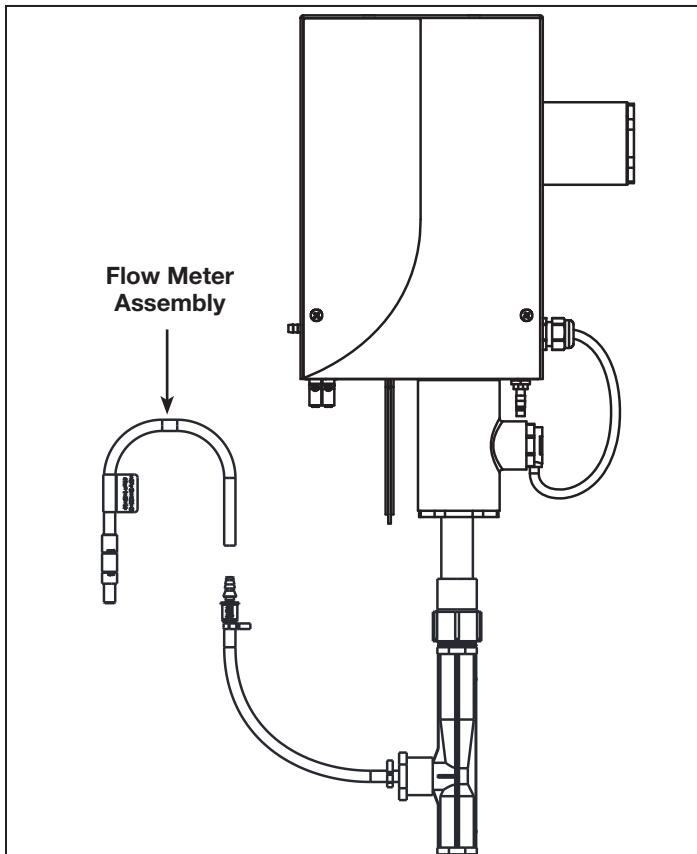

Figure 4. Flow Test Diagram
1. Temporarily disconnect tubing from inlet side of the check valve and attach included flow meter assembly. See Figure 4.